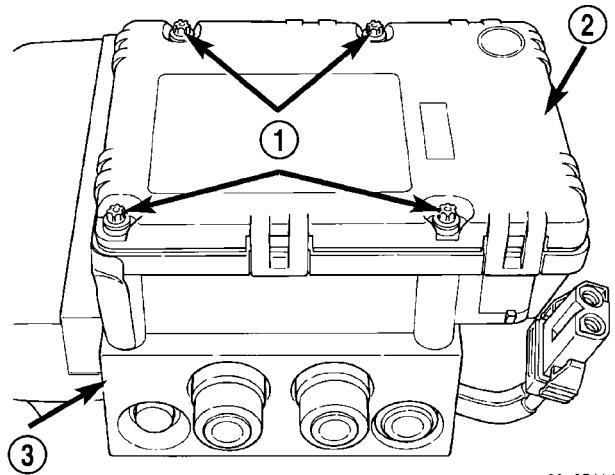

Fig. 20 CAB Attaching Bolts
(3) Remove the 4 bolts (Fig. 20) attaching the CAB to the HCU.
(2) Install the 4 bolts mounting the CAB (Fig. 20) to the HCU. Tighten the CAB mounting bolts to a torque of 2 N·m (17 in. lbs.).